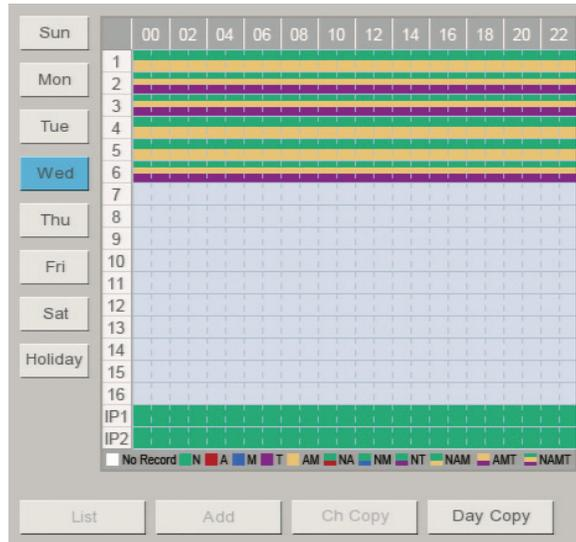

Figure 31. Copying a Schedule by Week Day
1. From the Schedule submenu, click the day you want to copy. (In Figure 31, Wednesday is the selected schedule day.)